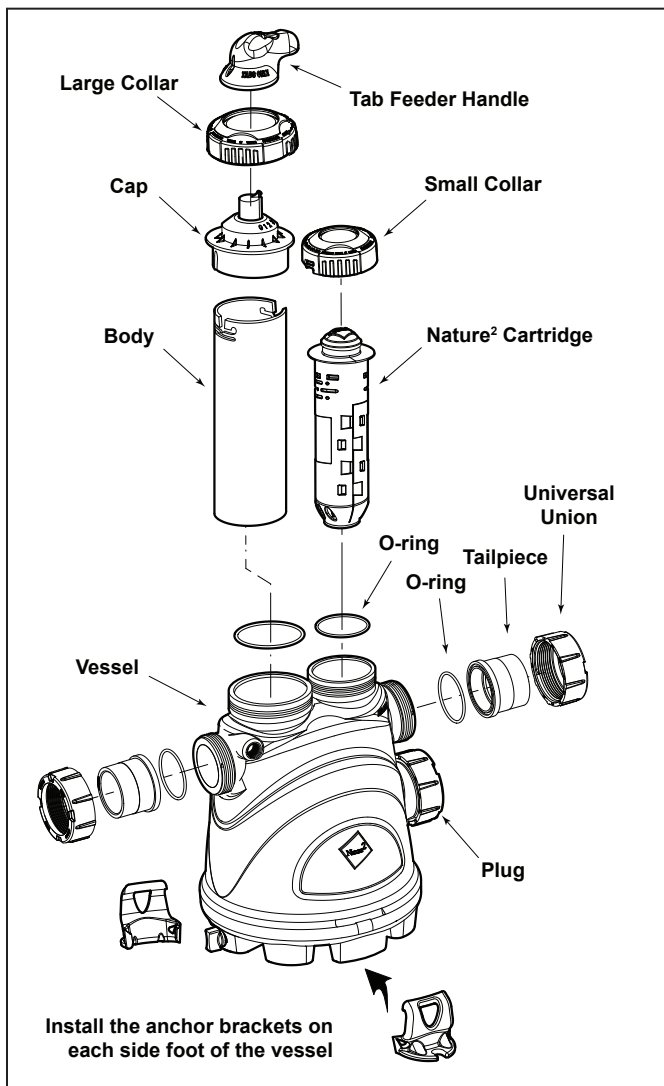

Figure 1. Nature2 Vessel Installation
2. If anchoring is required, manually snap on the two (2) clip-type anchor bracket onto the side feet of the vessel. Make sure these anchor brackets are attached firmly to the feet of the vessel. See Figure 1.